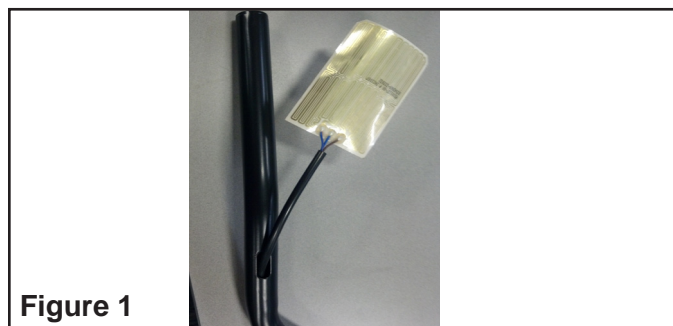
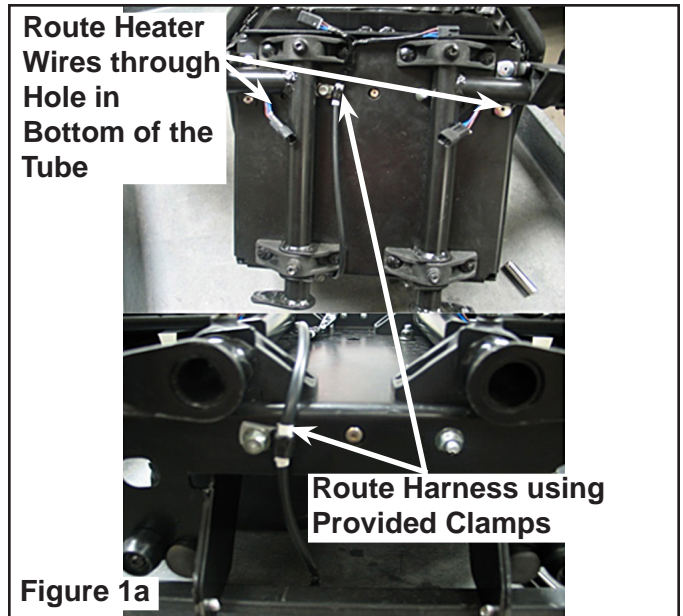

Figure 1
Figure 1a
3. Route individual hand warmer wires by starting at the forward bottom slot as shown in Figure 1a and threading them through the tube to the holes in the rear of the armrest.
- Remove the two 6 mm nuts as shown in Figure 1. Route the wire harness (PN 2412748) using wire clamps (PN 7080683) and fasten the nuts back on. Figure 1a.